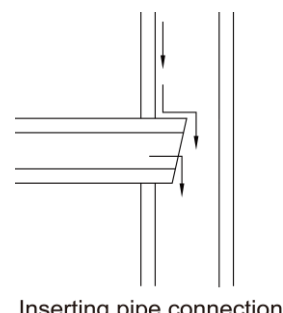

Fig 4.3.8
- NO.3: Inserting pipe connection (Fig 4.3.8).